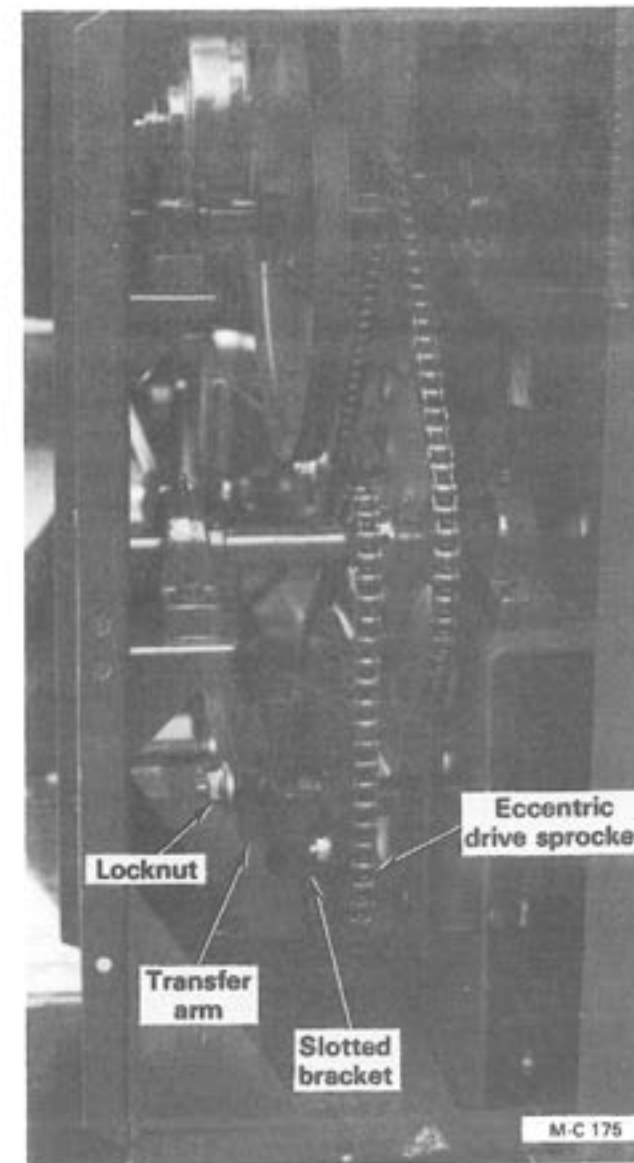

Figure 8
6. The transfer arm is anchored to a slotted bracket on the eccentric drive sprocket, see Figure 8. Loosen the locknut and adjust the transfer arm as follows: